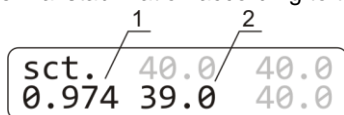

Figure 3. Changing the coefficient:
6.4.6. Using the **▲** and **▼ T, °C** keys, change the calibration coefficient (fig. 3/1) so that the new temperature value (fig. 3/2) corresponds to the independent sensor temperature. In our example, the calibration coefficient will be 0.974.